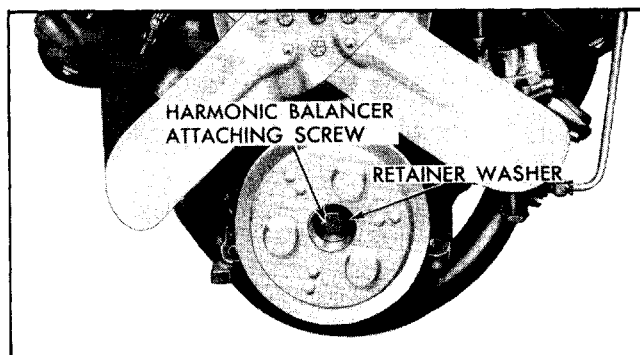

Fig. 6-23 Harmonic Balancer
2. Position fan so wide angles will be at top and bottom allowing access to balancer (Fig. 6-23).